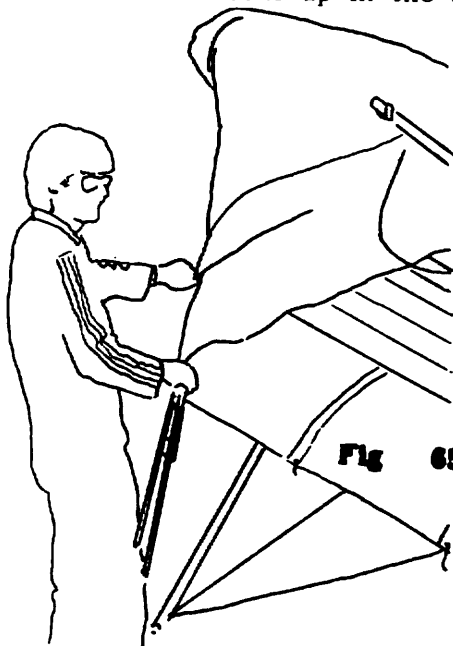

Fig 65
9) Pull the sail out so that both the top and bottom folds of the sail are equally taut, and roll the washout tips and lower surface battens up in the sail. (Fig 65)